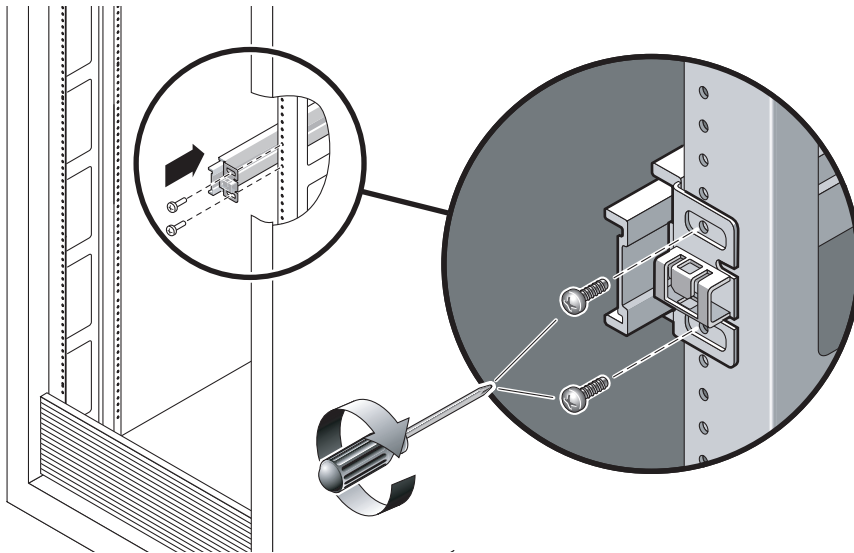

FIGURE 3-27 Mounting a Slide Rail
- a. Loosely attach the front of a slide rail to the right front rack post (FIGURE 3-27) using two screws.